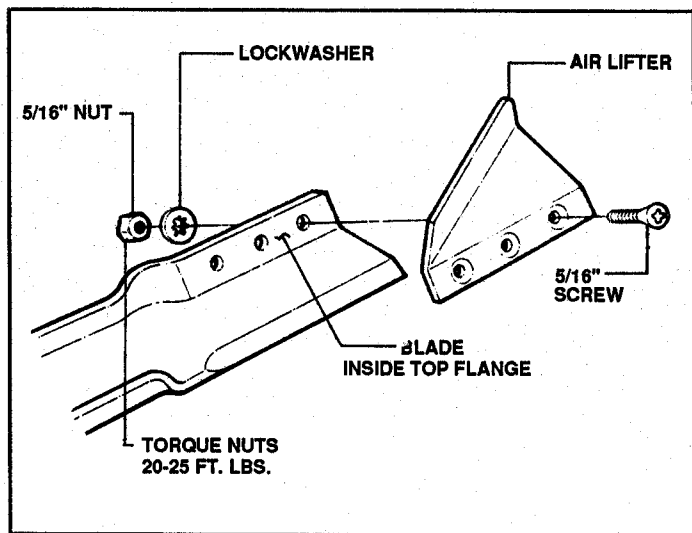

FIGURE 3.10
- A. Install air lifters on INSIDE TOP flange of blade with 5/16" screws, lockwashers and nuts. See Figure 3.10.